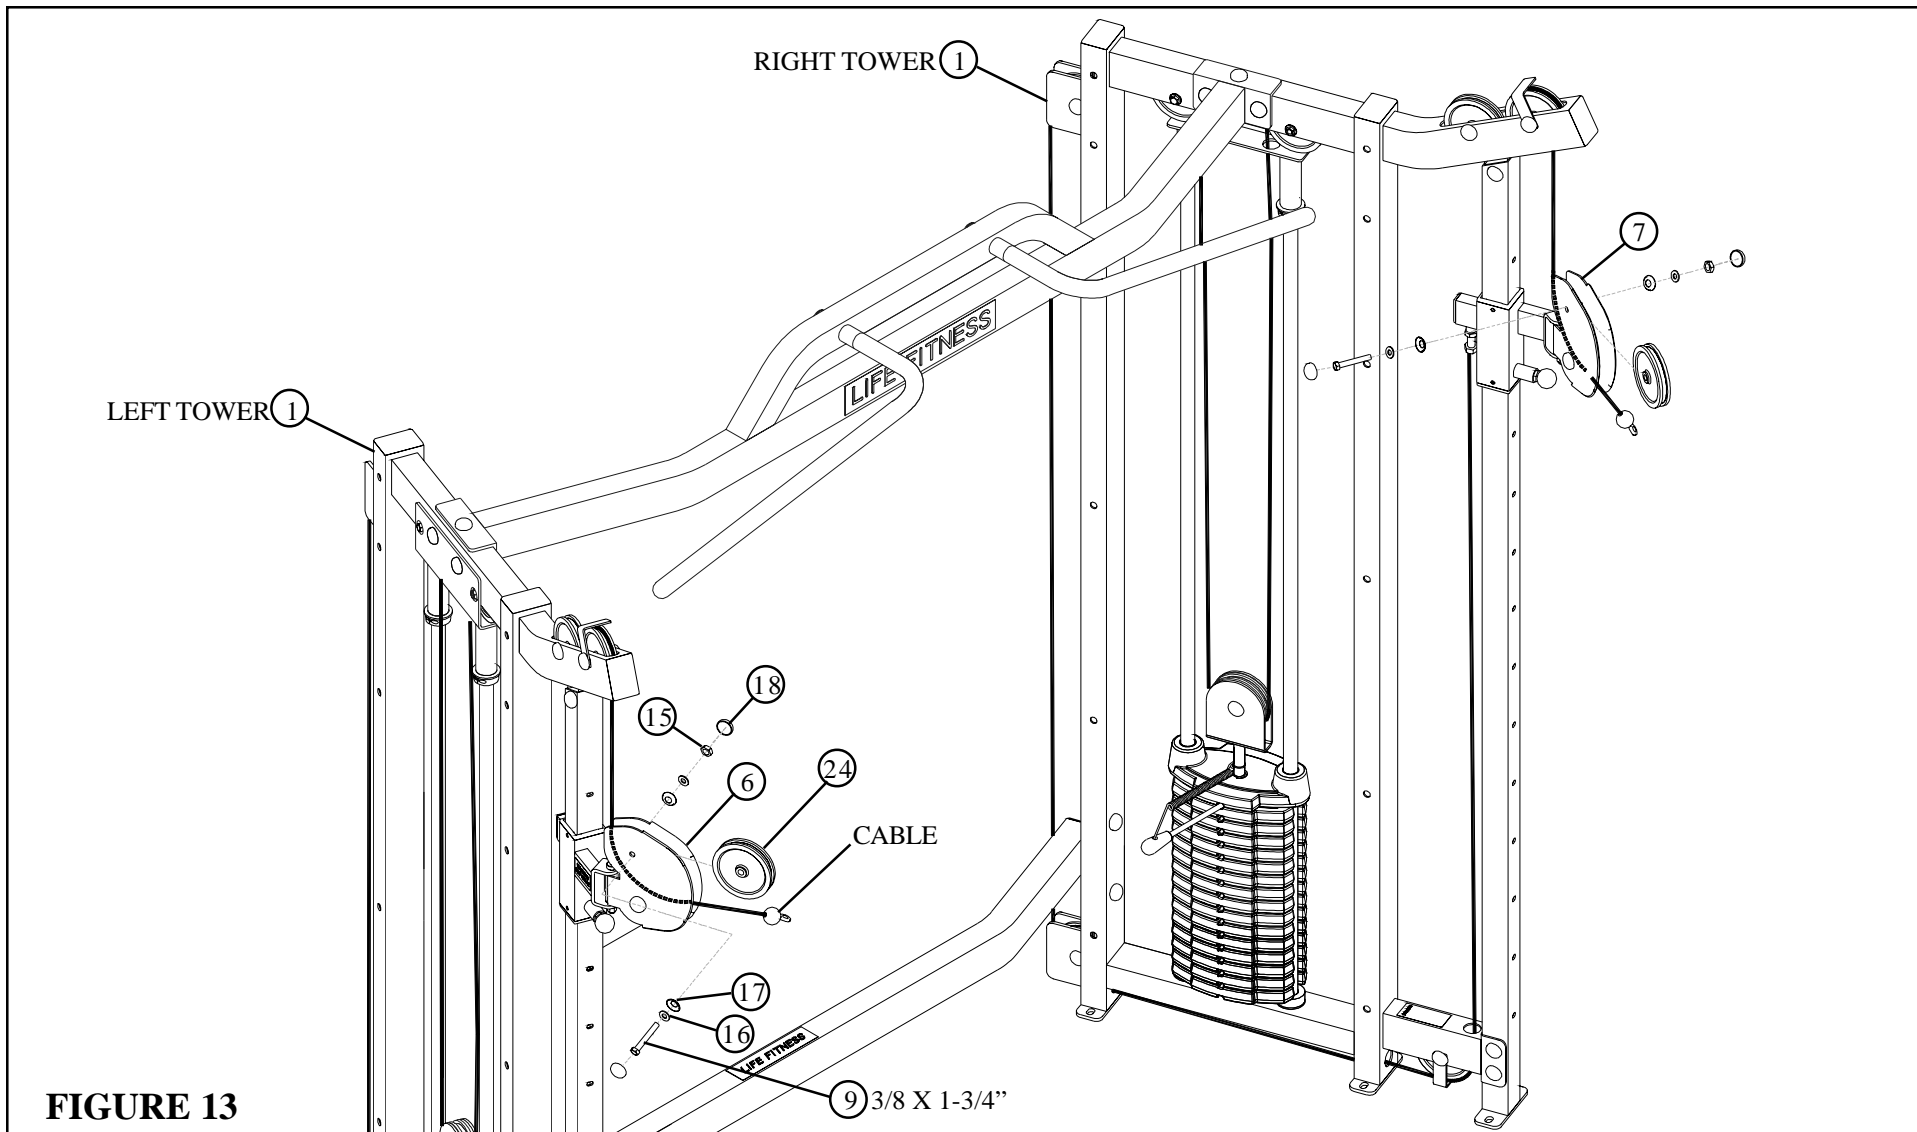

FIGURE 13
- Route the ball end of CABLE under one 4-1/2" PULLEY (24) and **SECURELY** assemble the 4-1/2" PULLEY (24) to the LEFT SWIVEL PULLEY (6) using two RH CAPS (18), one 3/8 X 1-3/4" BOLT (9), two 3/8" SAE WASHERS (16), two 3/8" RH WASHERS (17) and one 3/8" LOW HEIGHT LOCK NUT (15) as shown in FIGURE 13.
- Repeat this step to assemble one 4-1/2" PULLEY (24) to the RIGHT SWIVEL PULLEY (7).